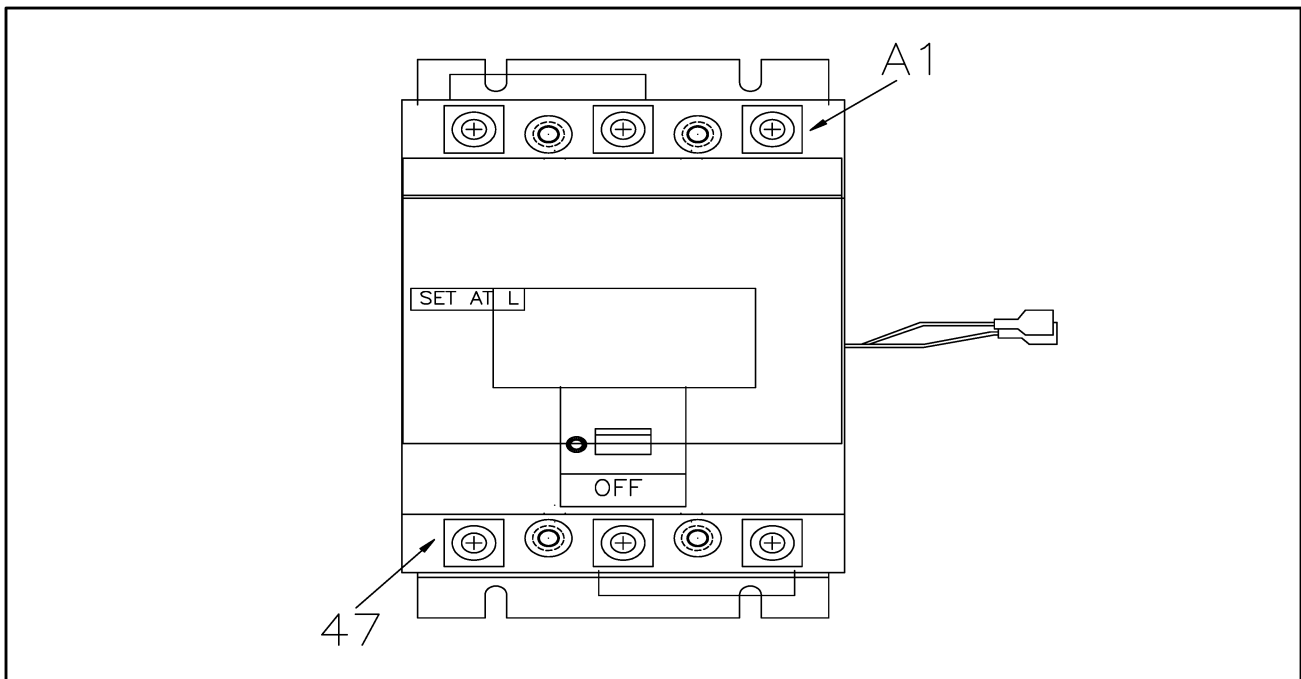
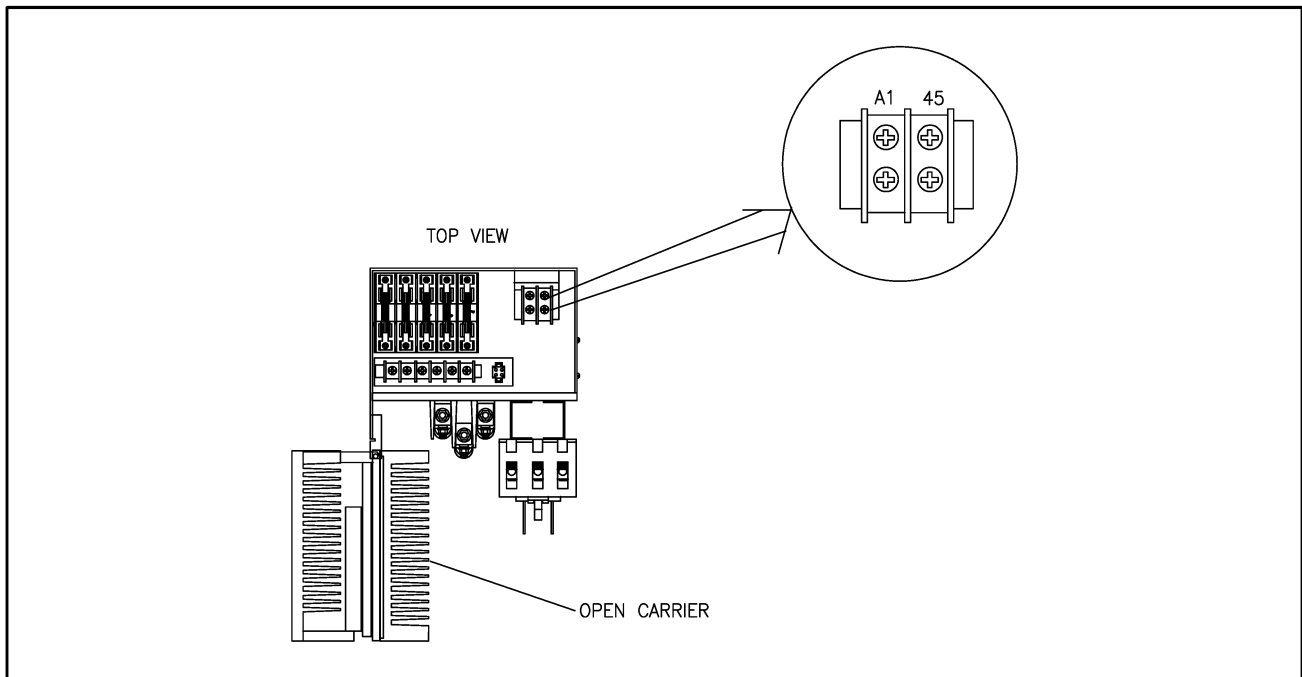

Figure 2 - Inverting Fault Circuit Breaker Terminal Locations
Figure 3 - Drive Motor Terminal Block
Step 4. Connect the motor armature lead marked A1 to the inverting fault circuit breaker terminal marked A1. See Figure 2 for the location of terminal A1 on the circuit breaker.
Step 5. Connect the wire from the inverting fault circuit breaker terminal marked 47 (see Figure 2 for location) to the drive motor terminal marked A1 (see Figure 3 for location).
Step 6. Connect the motor armature lead marked A2 to the drive motor terminal block marked 45 (see Figure 3 for location). If the motor has a series field, connect motor lead A2 to motor lead S1, and connect the motor lead S2 to the drive motor terminal block marked 45.